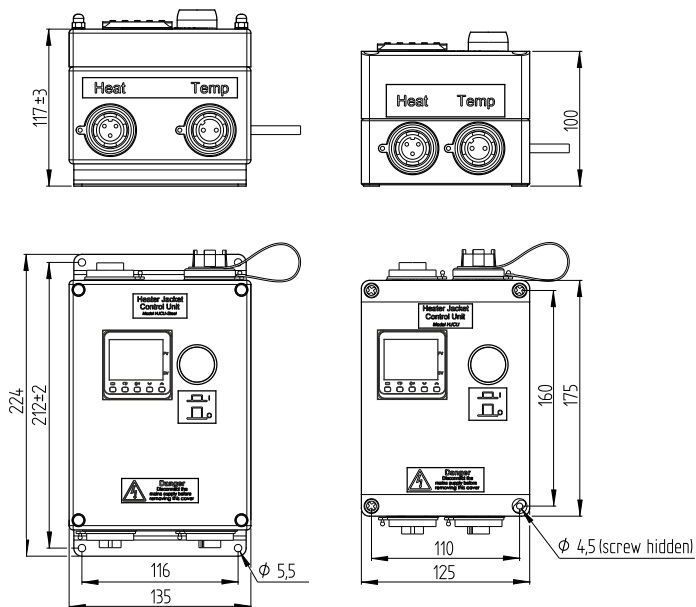

Figure 2
12. Heater Jacket Control Unit Steel made of steel 316L, Size In brackets includes mounting angles. See figure 2.